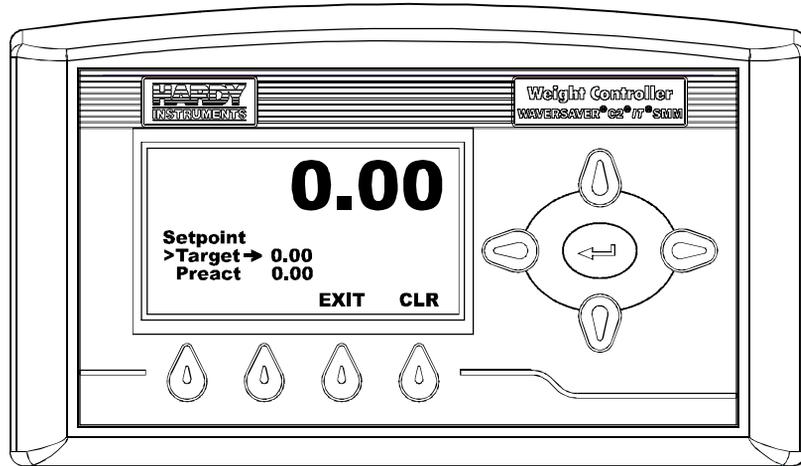

FIG. 58 SET POINT/SELECTING TARGET
- Step 11. Press the Down arrow button until the cursor is in front of “Target”. (See Fig. 58)